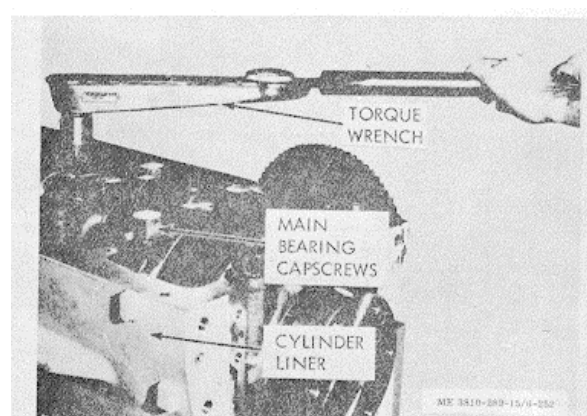

Figure 3-243. Torquing main bearing capscrews.
(11) Assemble main bearing caps, lockplates or flatwashers and capscrews to block in operating position, (fig. 3-243). Tighten capscrews to operating tension.